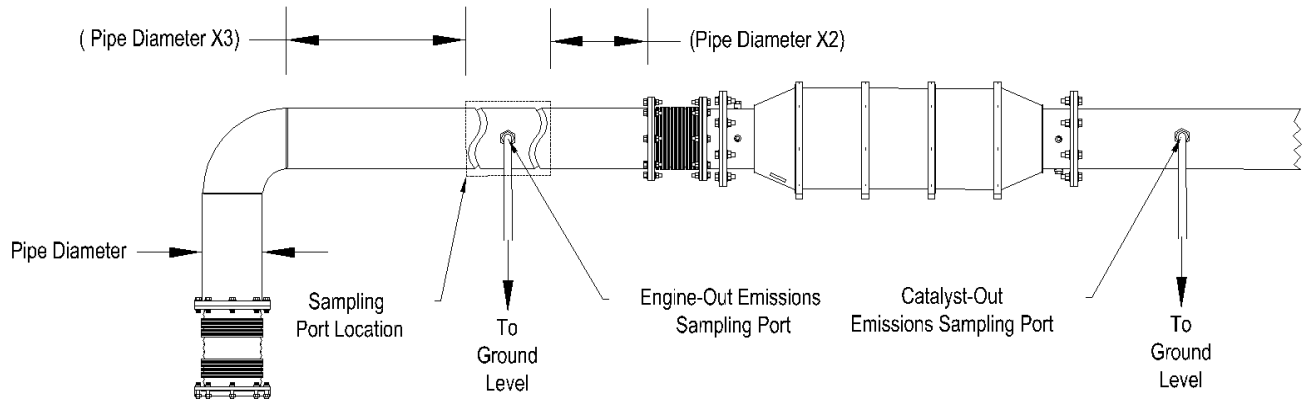

Figure 33: Example of proper emissions sampling port locations and configuration.
Caterpillar supplied three-way catalysts come supplied with emission sampling ports already installed. These ports are designed for oxygen, temperature, and pressure sensors. The oxygen sensors provide feedback to the air fuel ratio control system. If additional sampling ports are required, Figure 33 shows the proper installation guidelines.
1. Locate the engine-out emissions sampling port in the horizontal section of the exhaust pipe, at least three diameters downstream of the turbocharger outlet elbow and at least two diameters upstream of the catalyst/silencer. (Figure 33).
3. Provide a sample tubing arrangement from the sample port to ground level. (Figure 33).